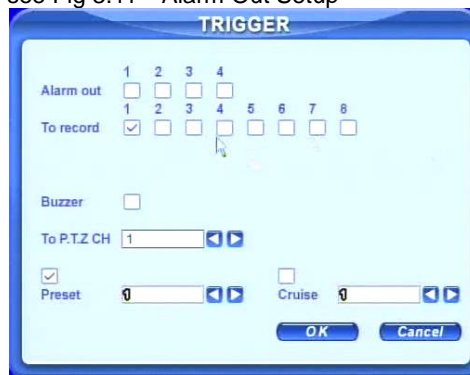

Fig 3.11 Alarm Out Setup
STEP3 Enter Trigger configuration, see Fig 3.11 Alarm Out Setup